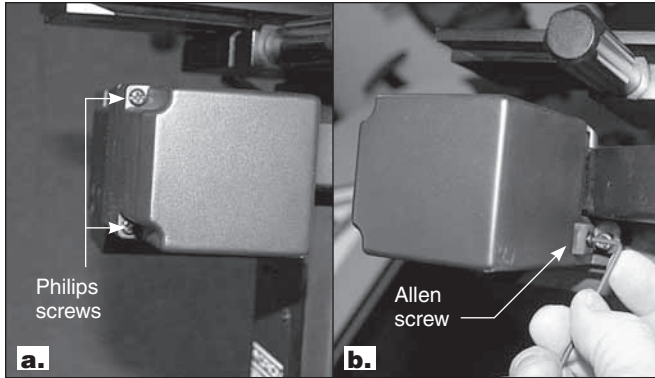

Figure 23: Removing the Dec motor housing is done by unthreading two Philips screws (a) and one Allen screw (b).
5. Remove the plastic DEC motor housing by unscrewing the three screws shown in **Figure 23**, using a Philips screwdriver and a 2mm Allen key.